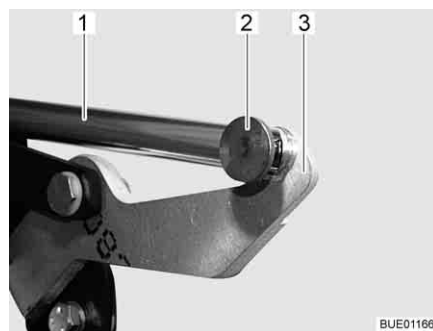

Fig. 109 Drive
- Remove the connection (e.g. splint and pin) (Fig. 109,2) between the push rod (Fig. 109,1) and lever (Fig. 109,3).